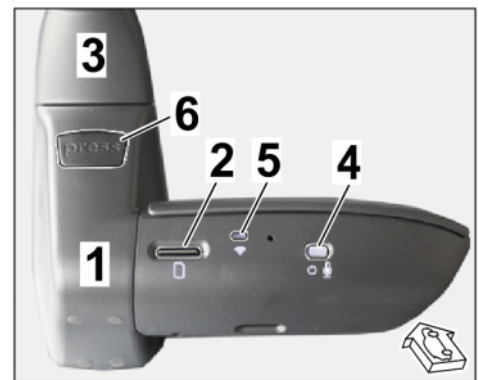

Figure 16
- 5.1.1 Remove micro SD memory card (32 GB, ⇒ *Figure 16 -2-*) from card slot for front camera.
- 5.1.2 With the ignition switched on, push the front camera (dashcam ⇒ *Figure 16 -1-*) into the retainer plate on the windshield (⇒ *Figure 16 -3-*)
- 5.1.3 Press the power button (⇒ *Figure 16 -4-*) for 10 seconds until you hear the second double beeping sound.
- 5.1.4 The front camera (dashcam) starts in Dealer mode: WiFi LED (⇒ *Figure 16 -5-*) lights up "yellow".